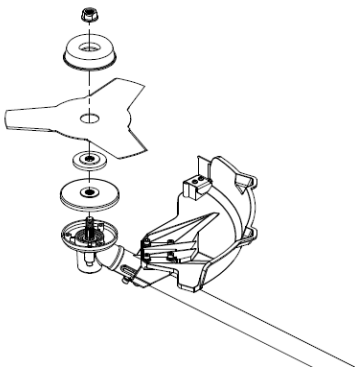

Fig. 35A
1. Remove the blade pressure plate, blade retainer, and nut from the head and put them into position. (Fig. 35A)